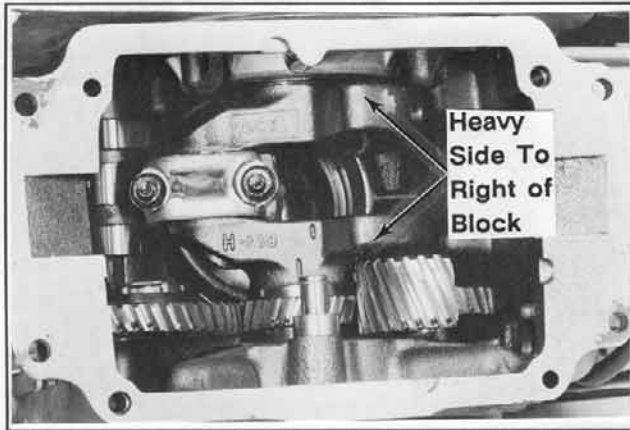

Figure 17. Heavy side of crankshaft right.
8. Install the 3/8" spacer and one (1) .010" shim spacer to the stub shaft for the third balance gear.
9. Turn crankshaft to position the heavy side of the crankshaft to right side of cylinder block. Refer to Figure 17.